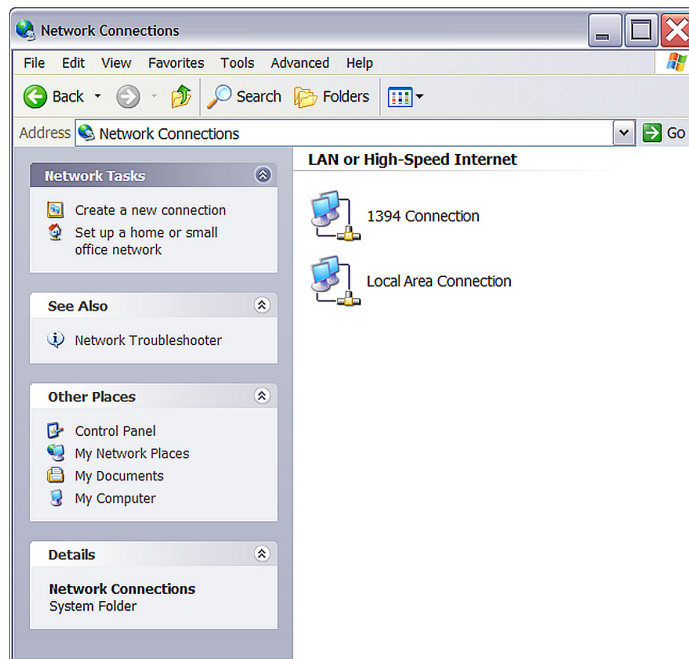

Figure 2. Network Connections
1. Open the **Windows Control Panel** and double-click the **Network and Internet Connections** icon, see Figure 2.